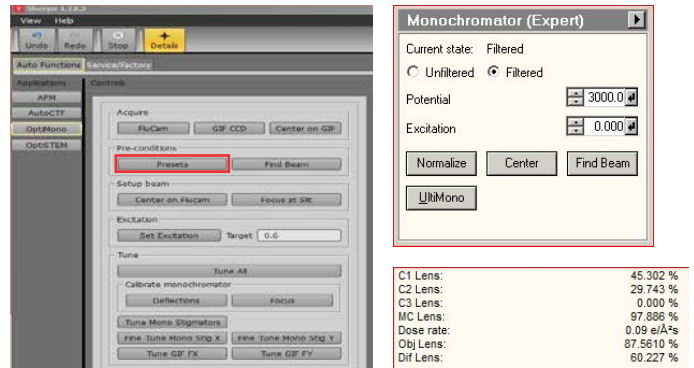
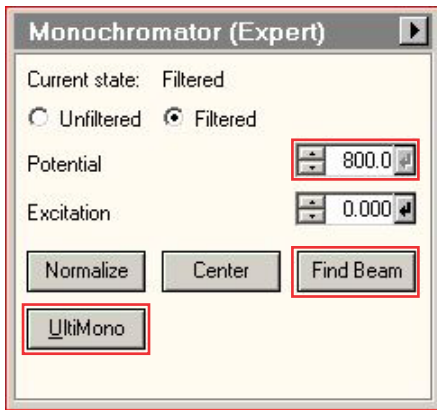

Figure 1. Screenshots showing the activation of filtered 2-condenser TEM mode.
Figure 2. Screenshots showing the activation of UltiMono optics and relevant functions in monochromator control panel.
- Press **Presets** in OptiMono UI. This brings the microscope to filtered 2-condenser TEM mode at spot size 1 and lowest SA magnification (Figure 1). Regarding the use of OptiMono, please refer to the dedicated user manuals for OptiMono.
- Lower the monochromator potential to 800 V (Figure 2), using one of the following two methods:
- Click the **UltiMono** button in the monochromator control panel (Figure 2) or in the OptiMono UI (Figure 1) to get the optical set-up for UltiMono. The change in the optical settings will take a few minutes. It takes roughly 30 minutes to achieve the thermal stability necessary for good performance. During the stabilization time the gun alignment can be performed (next bullet point).